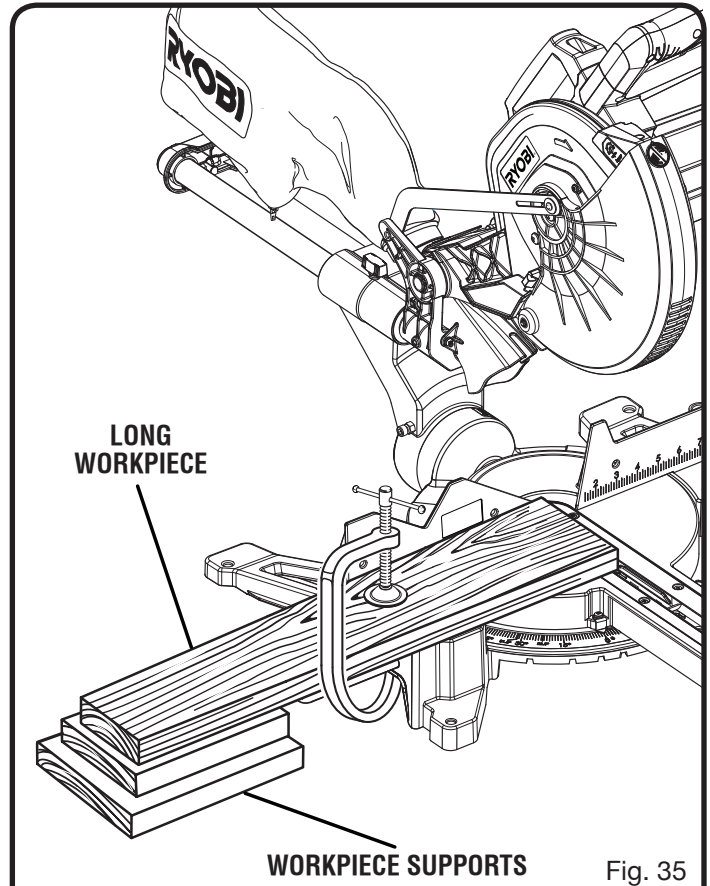

Fig. 35
- When cutting long pieces of lumber or molding, support the opposite end of the stock with a roller stand or with a work surface level with the saw table. See Figure 35.
See Figure 35.
- When cutting long pieces of lumber or molding, support the opposite end of the stock with a roller stand or with a work surface level with the saw table. *See Figure 35.*